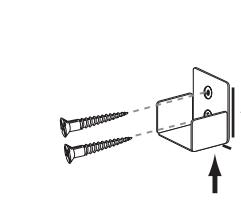

**FIG. 1.5**
8. Level shelf (front to back - Fig. 1.5)